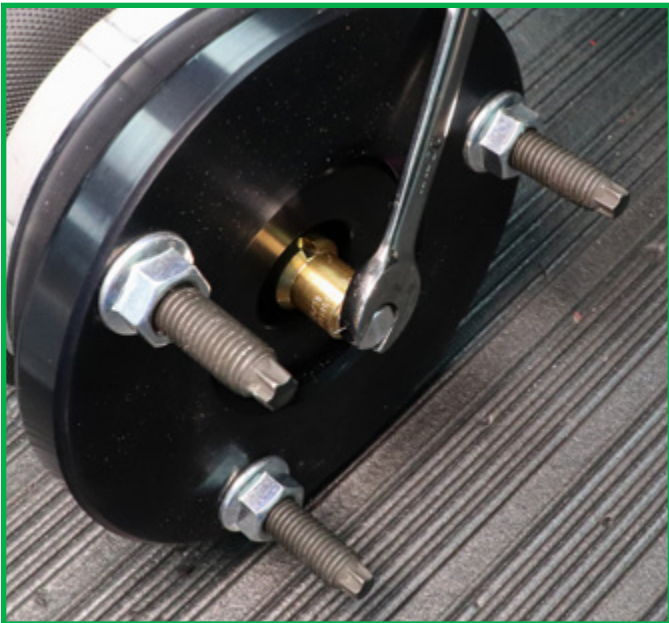

FIGURE 22
1. Remove the shipping plug from the check valve and install the VOSS fitting from the provided accessory kit on to the arnott air strut. Remove the shipping pin from the VOSS fitting. Use the figures below as an example. (Figures 22, 23, 24, 25)